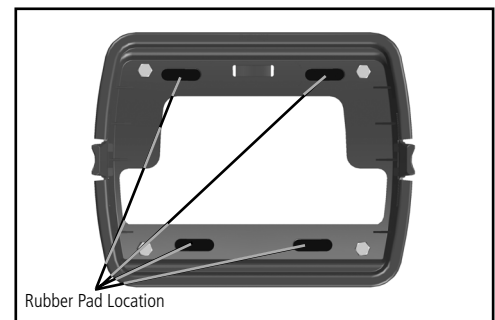

Figure 2
4. Install the four Foam Rubber Pads in the pocket at the locations indicated in Figure 2. To install the pads, peel the lining off of the back and install with the sticky side against the pocket.